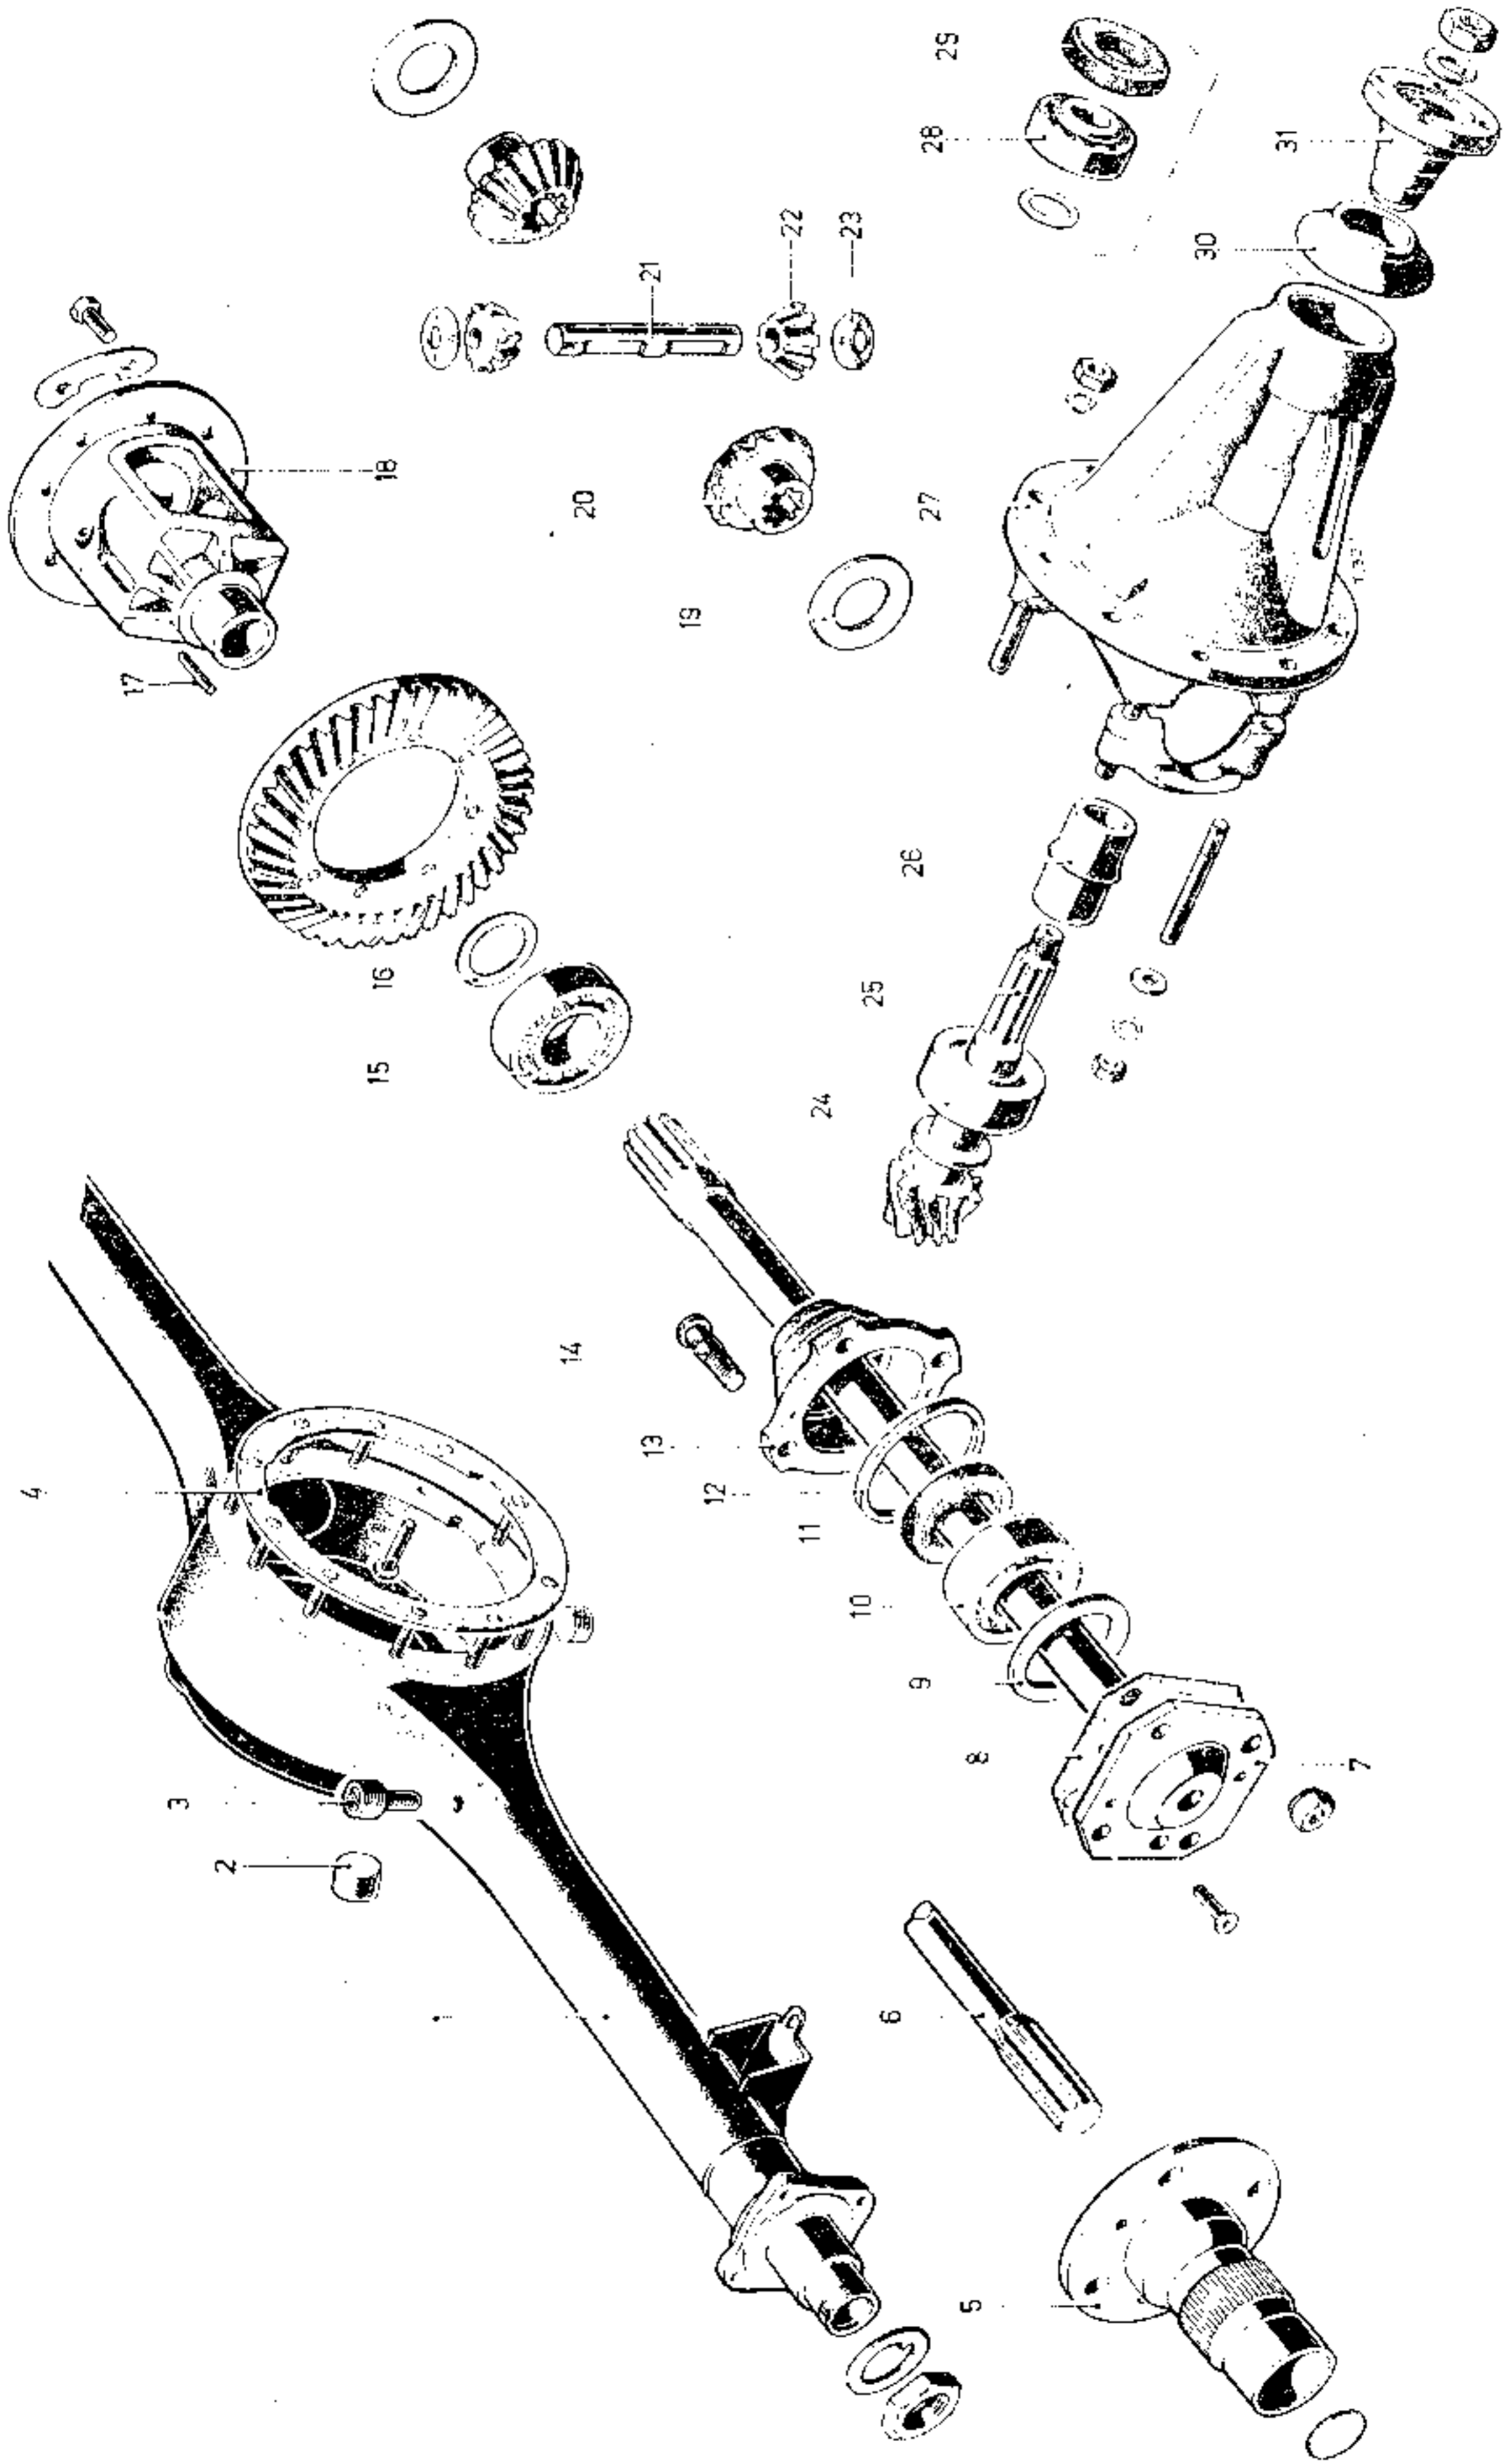

Fig. 26. Rear axle differential, exploded view
In Fig. 26 an exploded view of the rear axle is shown.
- (1) Reinstall the pinion bearing outer races, place a shim of known thickness on the pinion head and press on the rear pinion bearing.
- (2) Install the pinion in the carrier, fit the pinion front bearing and the drive flange and tighten the nut until a pre-load of 10-12 in lb is obtained. The oil-seal, the spacer bush and pre-load shims are omitted at this stage.
- (3) Zero a dial gauge on the machined step 'B' of the large gauge block of tool 18G191B. Remove the keep disc from the magnetic gauge block and position the magnet and the dial gauge. The base of the gauge must rest on the centre of the differential bore. Obtain the maximum depth reading and make a note of the difference from the zero position. Repeat this check in the opposite bearing bore and note the mean reading.
- (4) The pinion head is in some cases marked with a minus figure.
*Key to Fig. 26*